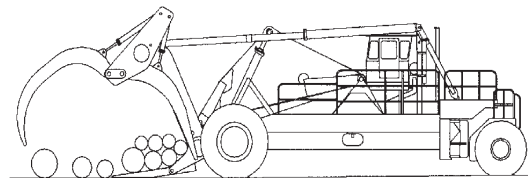

Fig. 5-13
4. When retrieving spread logs and the last one is beyond the ends of the tines, extra reach can be gained by tilting the carriage forward. This places the holddown arms in a position to rake the logs onto the tines. The distance the top of the carriage extends forward is the extra reach gained at the tip of the holddown arms. See Fig. 5-13.